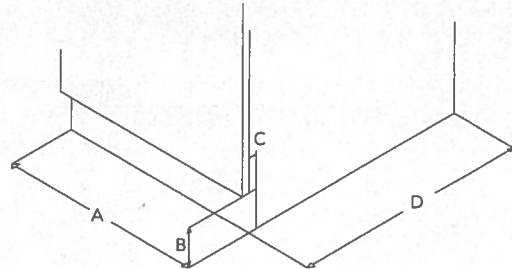

Fig 1.
- The minimum cabinet dimensions are shown below in Fig 1.